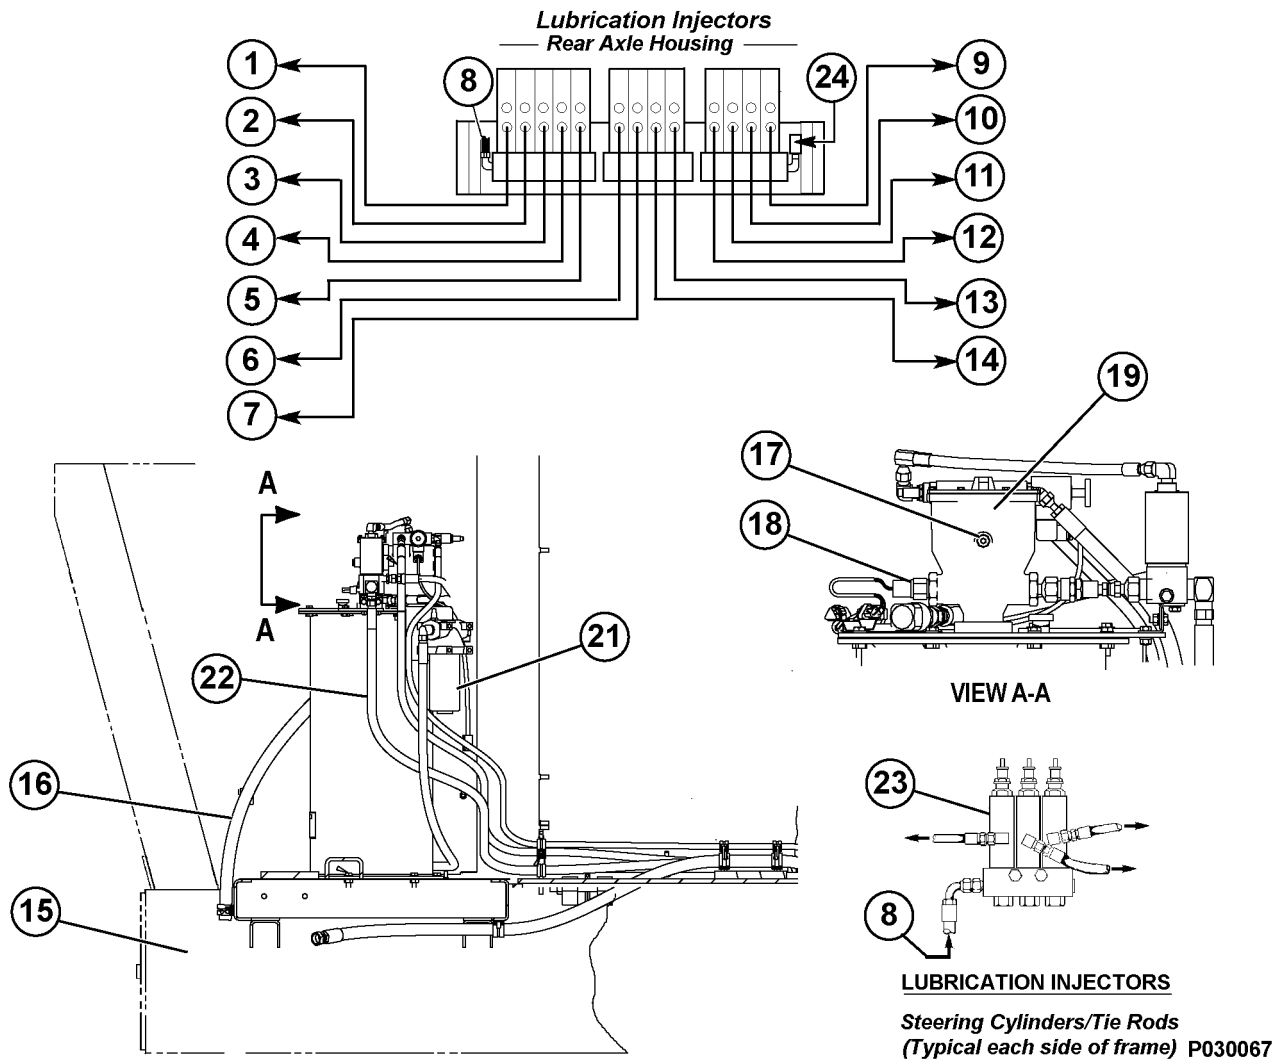
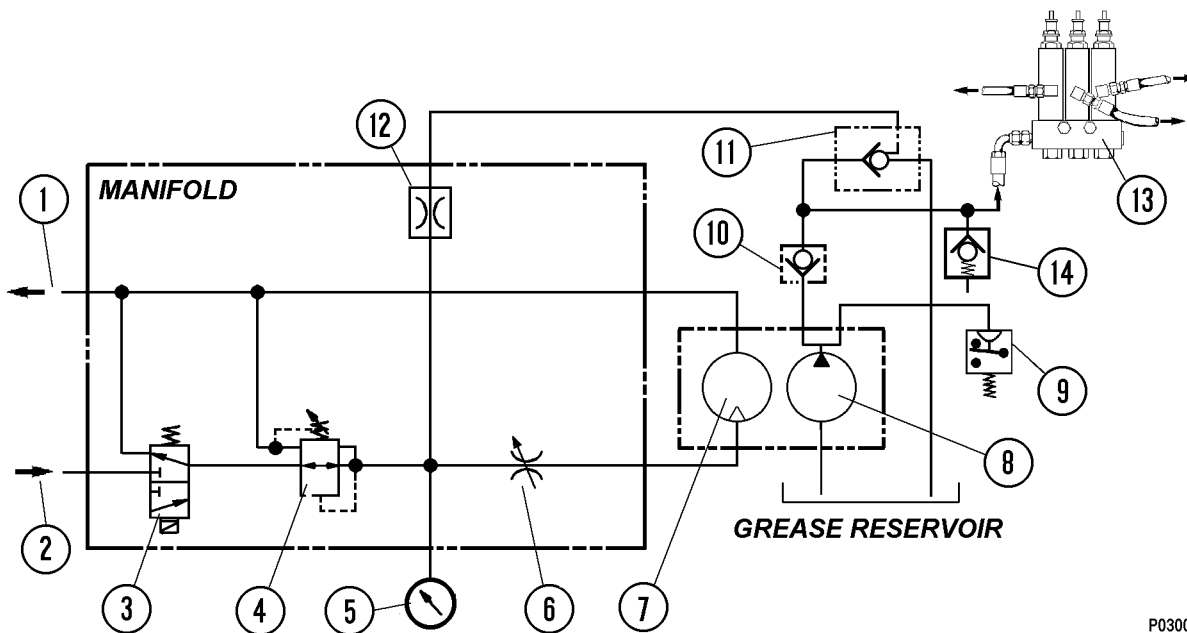

FIGURE 42-2. AUTOMATIC LUBRICATION SYSTEM INSTALLATION
FIGURE 42-3. HYDRAULIC SCHEMATIC
Filter assembly (21, Figure 42-2) mounted on the grease reservoir filters the grease prior to refilling the reservoir from the shop supply. A bypass indicator alerts service personnel when the filter requires replacement.
*NOTE: The pump crankcase oil level must be maintained to the level of the pipe plug (17, Figure 42-2) or use the dip stick. If necessary, refill with 10W-30 motor oil.*
The solid state lubrication cycle timer provides a 24 VDC timed-interval signal to energize solenoid valve (3, Figure 42-3) providing oil flow to operate the grease pump motor. This timer is mounted in the Electrical Interface Cabinet.
Pressure switch (18, Figure 42-2) is a normally open switch set at 20 684 kPa (3,000 psi). This switch de-energizes the pump solenoid relay if the grease line pressure reaches the switch pressure setting, turning off the motor and pump.
Pressure switch (24, Figure 42-2) is a normally open switch set at 13 789 kPa (2,000 psi). If the appropriate grease pressure is not achieved during the normal pump cycle, the warning system will be activated, illuminating the warning lamp in the overhead display to notify the operator a problem exists in the lube system.
Each injector (23, Figure 42-2) delivers a controlled amount of pressurized lubricant to a designated lube point. Refer to Figure 42-2 for locations.
Relief valve (14, Figure 42-3) protects the pump from high pressures. This relief valve is set at 27 580 kPa (4,000 psi).
2. The timer provides 24 VDC to energize the pump solenoid valve (3, Figure 42-3), allowing hydraulic oil provided by the truck steering pump circuit to flow to the pump motor and initiate a pumping cycle.
3. The hydraulic oil from the steering circuit is directed through the pressure reducing valve (4) and flow control valve (6) before entering the motor. Pump pressure can be read on optional pressure gauge (5) mounted on the manifold.
4. With oil flowing into the hydraulic motor, the grease pump will operate, pumping grease from the reservoir to the injectors (13), through a check valve (10) and to the vent valve (11).
6. When grease pressure reaches pressure switch (18, Figure 42-2) setting, the switch contacts will close and energize the relay RB7-K5, removing power from the hydraulic motor/pump solenoid and the pump will stop. The relay will remain energized until grease pressure drops (pressure switch opens again) and the timer turns off.
7. After the pump solenoid valve is de-energized, hydraulic pressure in the manifold drops and vent valve (11, Figure 42-3) will open, releasing grease pressure in the lines to the injector banks. When this occurs, the injectors are then able to recharge for the next lubrication cycle.